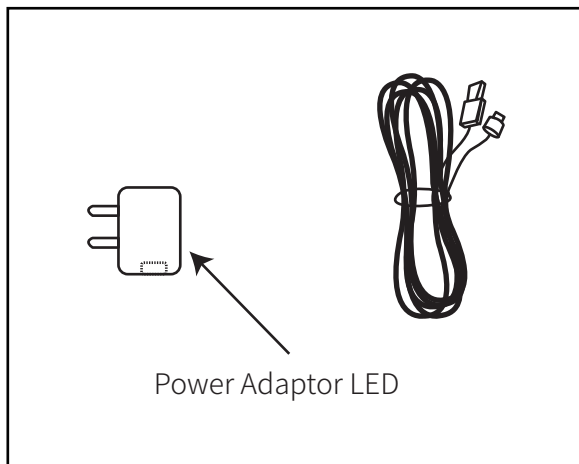
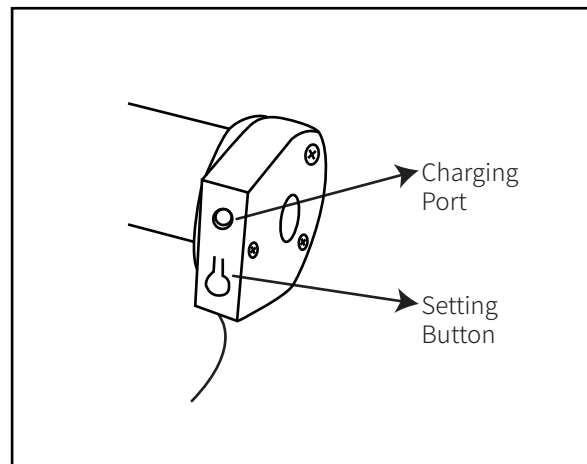

Figure 1: Charging cord
Figure 2: Motor end
2. **Press & hold** the **Setting Button** ( Figure 2 ) on the shade motor end until the shade jogs once; let go and you'll hear a long beep.
If for some reason shade direction is reversed , **Press & hold the Setting Button** ( figure 2 ) on the shade motor end until the shade jogs 2 times .
- Insert the charging cord ( Figure 1 ) into the charging port on the end of the motor tube( Figure 2 ) , and plug the other end of the power adaptor into an outlet.
- 1 . **Press hold** the **Setting Button** ( Figure 2 ) on the shade motor end until the shade jogs 3 times then beeps 3 times . This removes all programming.